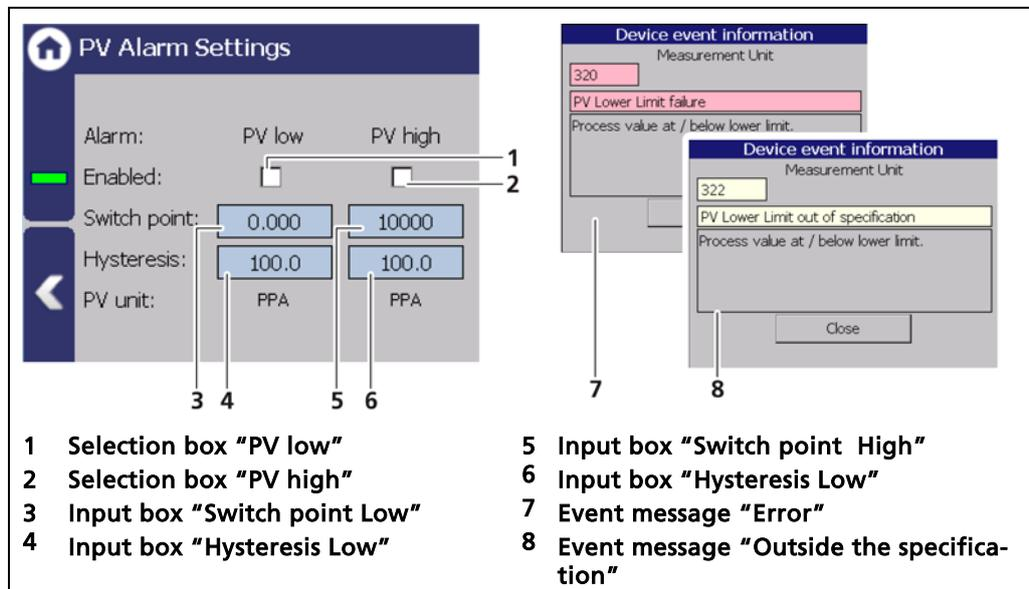

Fig. 101 Measuring set submenu "PV Alarm Settings"
If a status is selected in the menu PV Alarm Behaviour, a corresponding event message appears if the switching point is exceeded or if it falls below this point (Fig. 101 item 7, item 8).